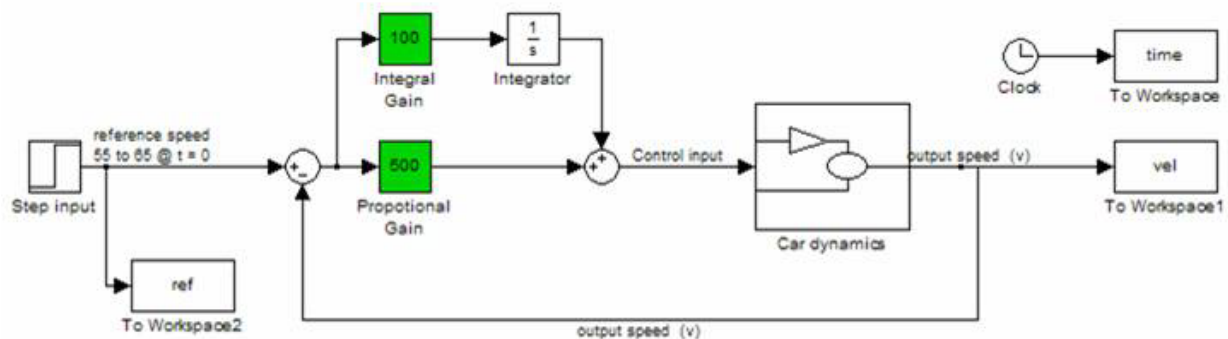

Figure 1: SIMULINK model for `hw1cruise.mdl`.
The file `hw1cruise.mdl` contains a simple model of a cruise controller for a car, depicted in Figure 1. The system consists of a simple model of a vehicle (“car dynamics”), with a proportional plus integral (PI) control law to track a step change in the car velocity. The commanded and actual variable are stored to the MATLAB workspace, along with the time vector.